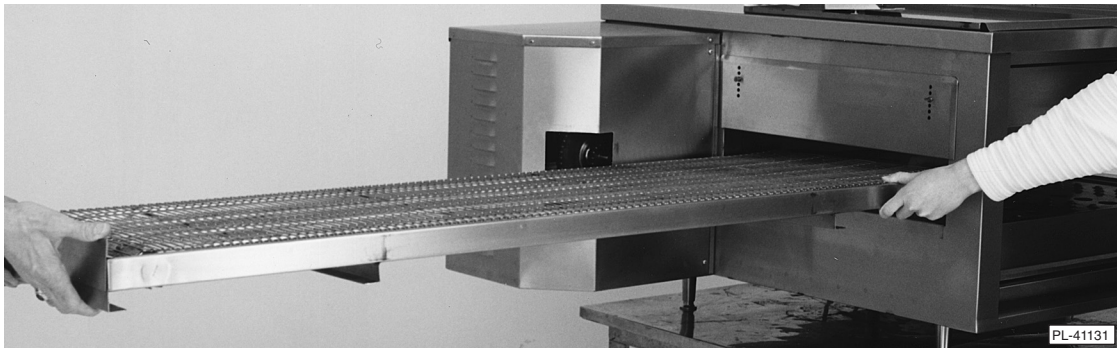

Fig. 11
- e. Pull the entire conveyor assembly from the oven (Fig. 11).